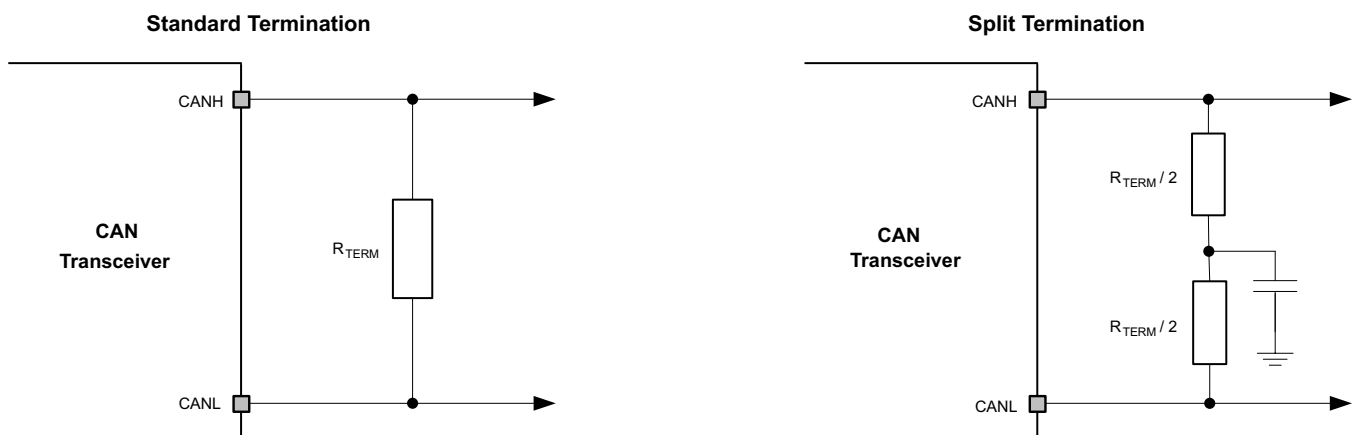

Figure 22. CAN Termination Schematic
Termination is typically a 120-Ω resistor at each end of the bus. If filtering and stabilization of the common-mode voltage of the bus is desired, then split termination may be used (see Figure 22 and Using SPLIT With Split Termination).
- Bus termination: Figure 22 shows split termination. This is where the termination is split into two resistors, R5 and R6, with the center or split tap of the termination connected to ground through capacitor C6. Split termination provides common-mode filtering for the bus. When termination is placed on the board instead of directly on the bus, care must be taken to ensure the terminating node is not removed from the bus as this causes signal integrity issues if the bus is not properly terminated on both ends.